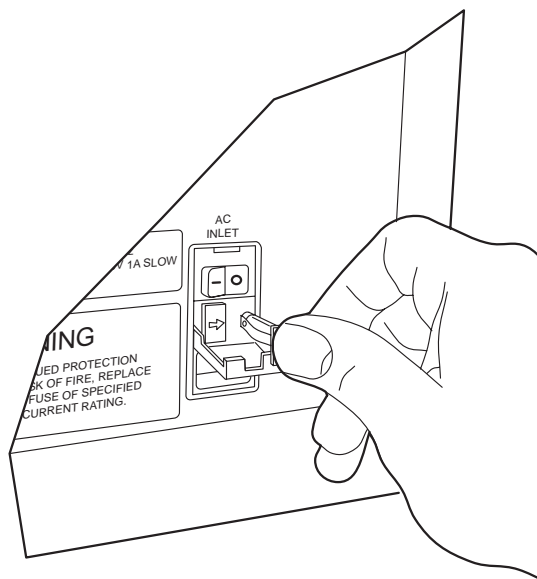

Figure 4-2 Checking the Fuses
2. Pry the power entry module cover open and slide the two fuse carriers out of the instrument (see Figure 4-2).